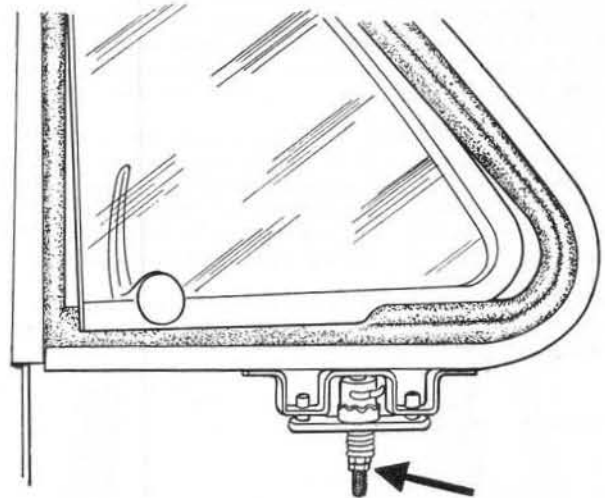

Fig.12.11. Adjustment and securing mechanism front no draught ventilator Mk 1 cars
- 4 Pull down the door covering which is attached by adhesive to the door frame at the bottom of the window aperture. The ventilator adjustment and securing mechanism (Fig.12.11) can now be seen through a small aperture in the door.